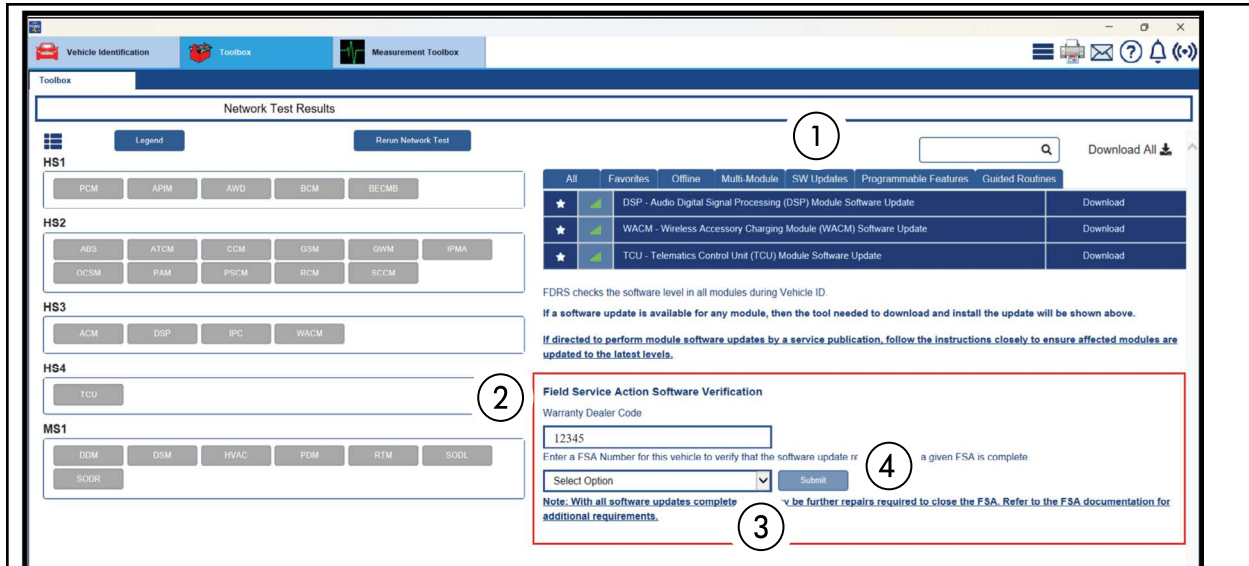

FIGURE 13
31. Select the **SW Updates** tab (1). See Figure 13.
32. **Warranty Dealer Code** (2) - Change the displayed PA code as necessary. See Figure 13.
33. Select the **FSA** (3) from the drop-down menu. See Figure 13.
34. Select **Submit** (4). See Figure 13.